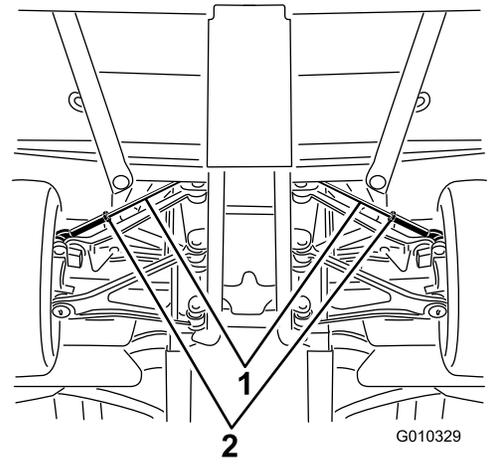

**Figure 56**
2. Measure the center-to-center distance (at axle height) at the front and rear of the steering tires (Figure 56).